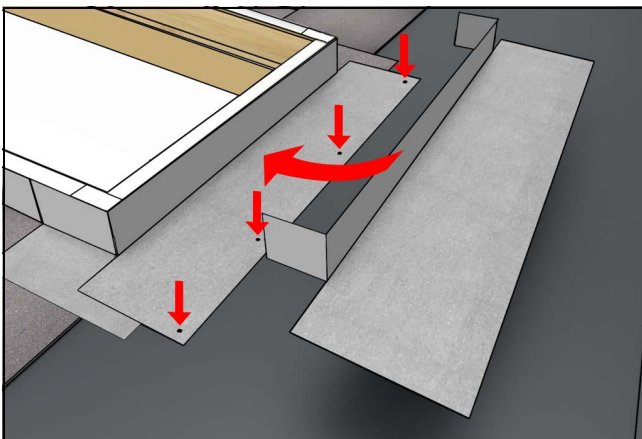

Figure 39
10. Head jamb saddle centered installed with tabs bent around jamb step flashing. See Figure 39.